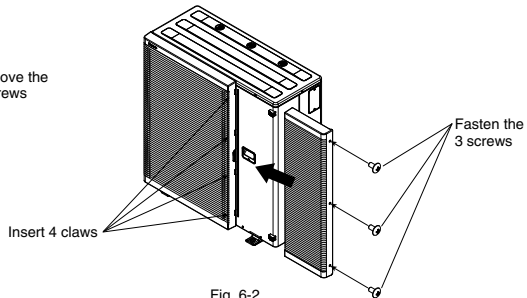

Fig. 6-2
2. Insert 4 claws of the discharge grille (right side) and fasten the 3 screws. (Fig. 6-2)